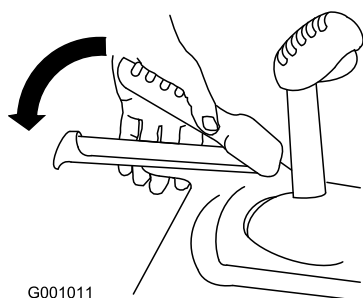

Figure 21
3. Squeeze the left hand (traction) lever to the hand-grip (Figure 21).
6. Squeeze the left hand (traction) lever to the hand-grip (Figure 21).